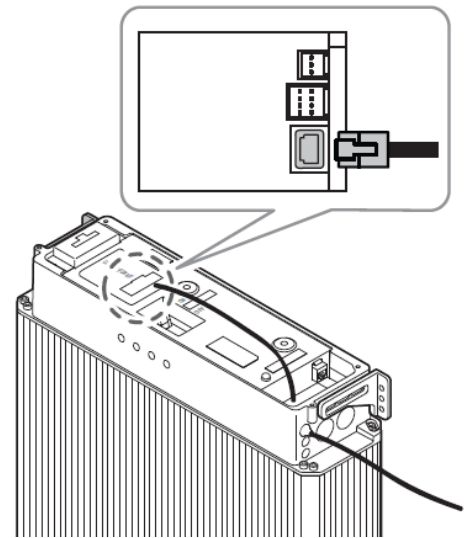

Figure 3 Insert RJ45 plug into battery port
Step 3 Insert the RJ45 plug into the battery port until it makes a clicking sound (Figure 3).